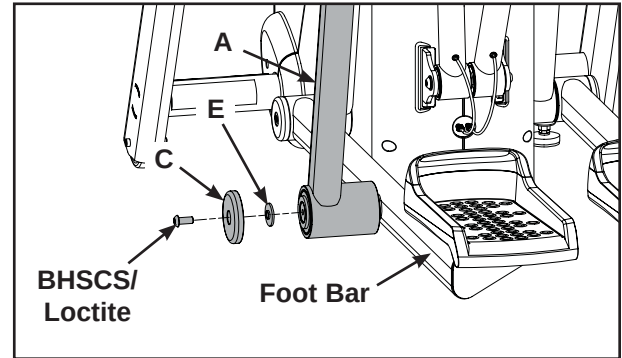

Figure 2
- A. Using a 7/32" Allen wrench, remove the BHSCS (Button Head Socket Cap Screw), spacer and end cap securing the rear leg to the foot bar. See Figure 2.